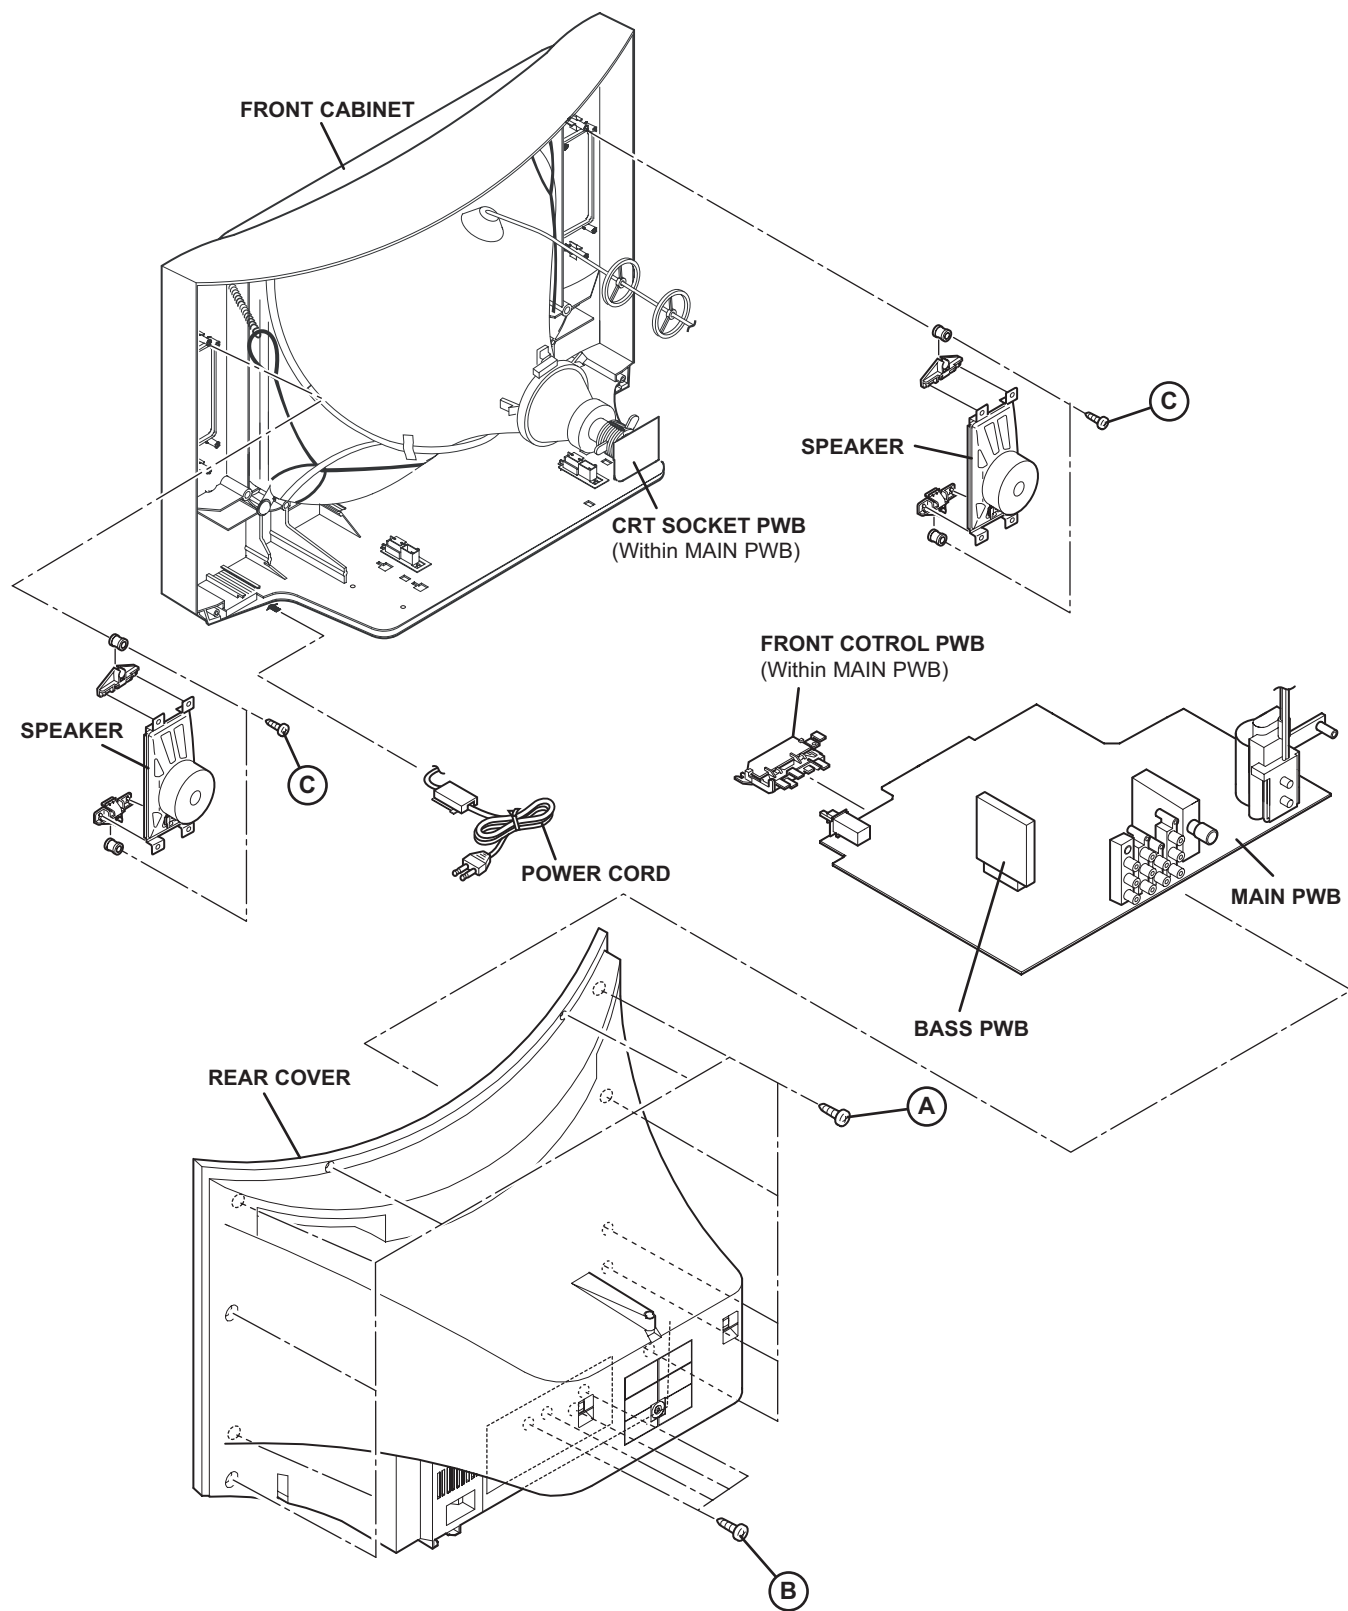

Fig.2
- (1) Remove the 11 screws **[A]** and 4 screws **[B]** as shown in Fig.2.
- (2) Withdraw the REAR COVER toward you.
- (1) Remove the 2 screws **[C]** as shown in Fig.2.
- (2) Follow the same steps when removing the other hand SPEAKER.